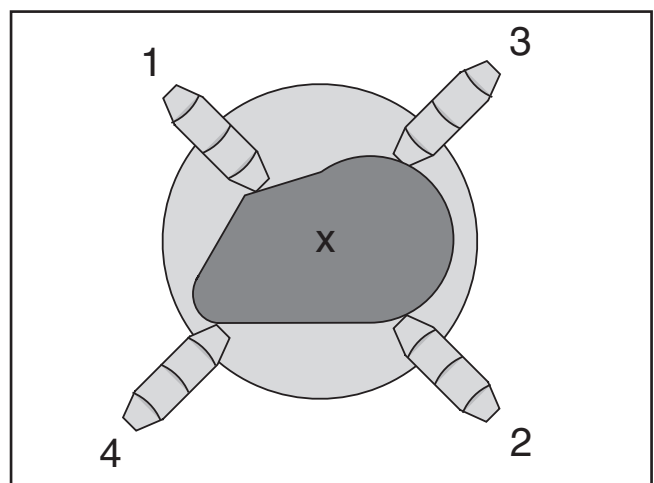

Figure 32. 4-jaw tightening sequence.
4. With assistance to hold the workpiece in place, tighten each jaw in small increments. After adjusting the first jaw, continue tightening in opposing sequence, as shown in **Figure 32**, until the workpiece is firmly secure in the desired position.